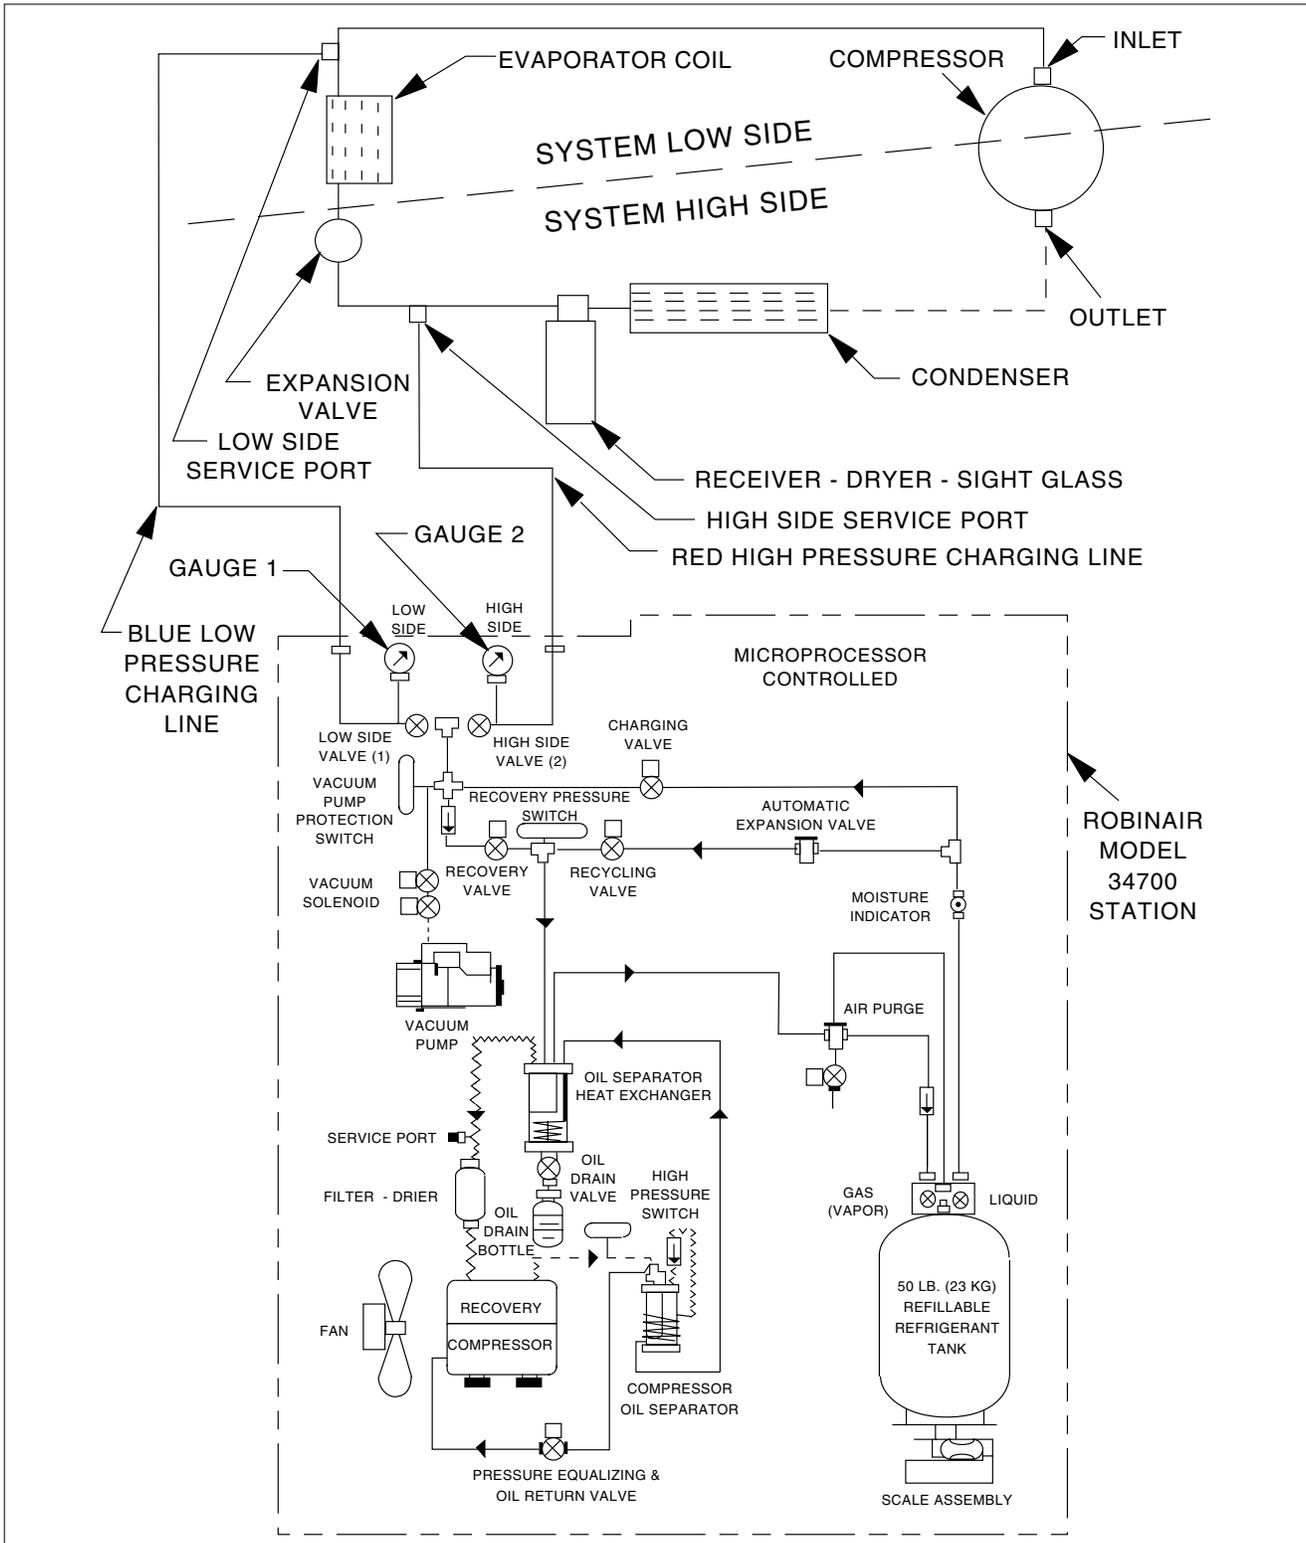

Figure 21-8. Robinair 34700 Hose Hookup
- (4) Connect the blue and red hoses to the service ports ( ref Figure 21-8 ), on systems equipped with quick disconnect connections, open coupler valves
- (5) Open blue (low side) valve (1) on unit's control panel
- (6) Open both the red GAS (vapor) valve and the blue LIQUID valve on the tank ( ref. Figure 21-8).
- (7) Program the length of evacuation time.
- (8) Enter the required time in minutes and seconds (30:00 minutes minimum) by pressing appropriate keys and then ENTER on keypad. The display will show selected time in minutes and seconds. Example: one hour and fifteen minutes (1:15) would be entered as 7500. The display will show 75:00. Thirty minutes is entered as 3000. the display will show 30:00.
- (9) To start the vacuum pump press the VACUUM key on keypad again.
- (10) Vacuum sequence will continue for the programmed time. Digital display will then show CPL, indicating that the evacuation is completed.